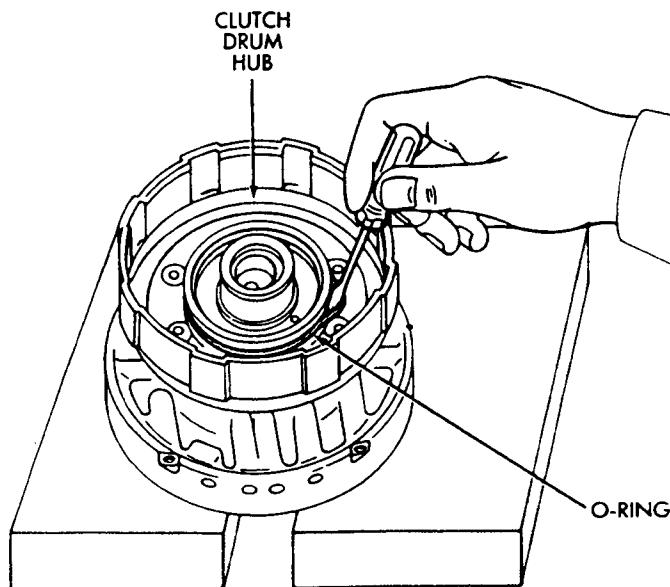

Fig. 7 Removing/Installing Clutch Drum O-Ring
(3) Install seal rings on shaft. Keep rings closed as tightly as possible during installation. Avoid over-spreading them.
(4) Mount clutch drum on overdrive support.
(5) Lubricate and install new O-ring on clutch drum hub (Fig. 7).